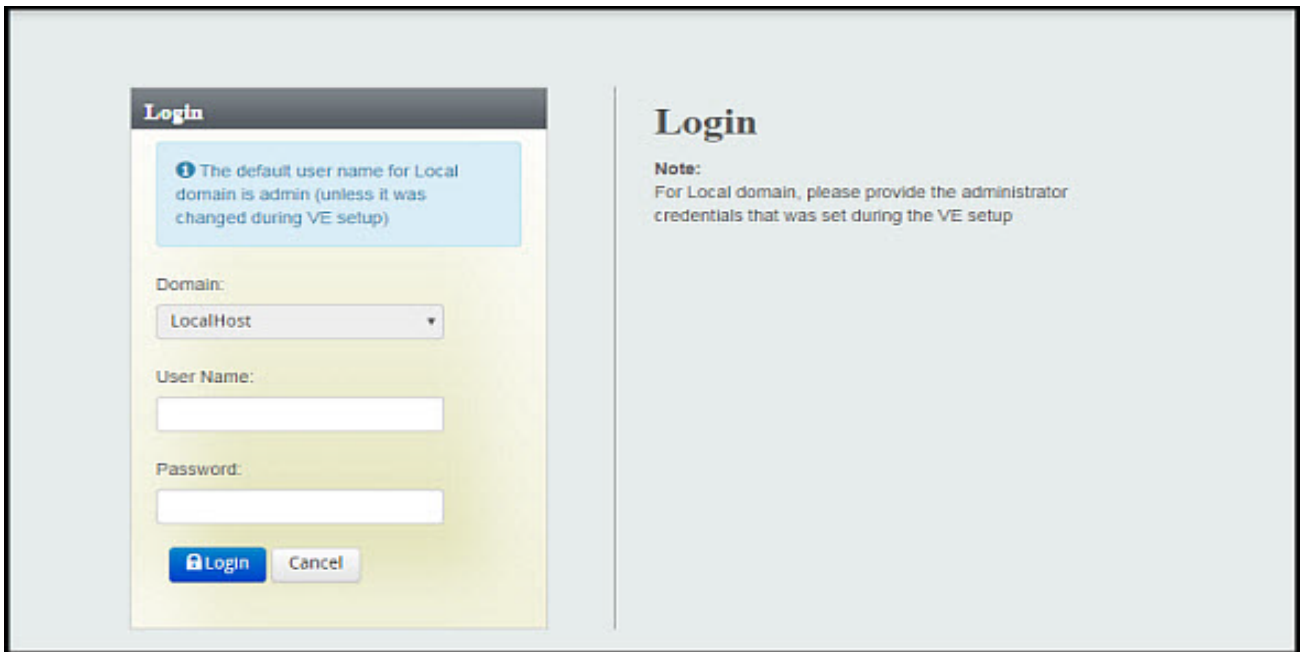

Figure 4 Login page
2. In the SRS home page, click **Login**, as shown in Figure 4 on page 21. The Login page appears.